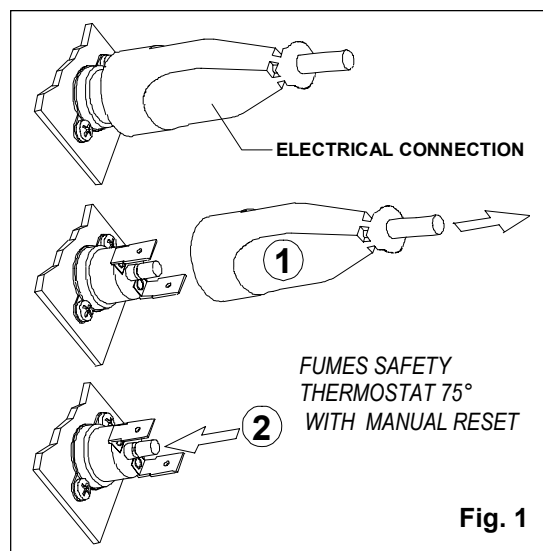
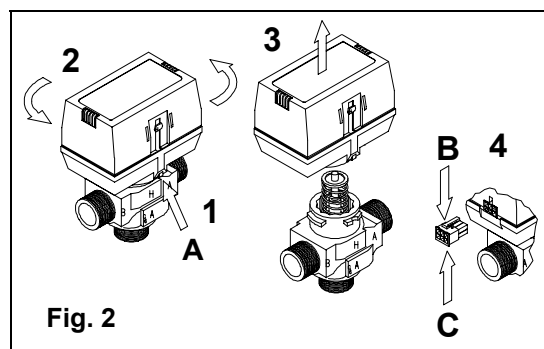

Fig. 1
Fig. 2
Natural draught boilers model Open Combustion hamber Model are equipped with a device (see fig. 1) to control correct exhaust of combustion gases. This device guarantees maximum safety of operation if the flue should become partially or totally blocked, or if its section is not suitable for exhaust of combustion gases.
- turn the summer-winter selector switch to the **OFF** position, detach the electrical connection (1) on the flue safety thermostat (see fig.1), press the button (2) between the two electrical contacts and then attach the electrical connection 1 again.;
To restore the initial position, separate the actuator and the valve body following instructions from no.1 to no.4 (see fig.2).
To separate the motor from the valve body proceed as follows (see fig.2):
The boiler is equipped with a variable flow limiter at the cold water inlet. The flow limiter can be adjusted by turning the screw (see fig.2 pos. **C**) in order to obtain the correct flow rate of domestic hot water for the specific boiler output.
This device gives precedence to domestic hot water and is fitted to boilers which supply instantaneous hot water (see fig.1 – fig. 2 pos. **B**). It allows conversion to hot water even with a minimum hot water demand (min. 2 litres), using an electromagnetic principle with electrical switching by means of a relay. The device is made of non-toxic, corrosion-proof ZYTEL 101 L plastic material which has type approval with non-toxic characteristics and is unaffected by hard water. In addition, a filter is fitted before the flowswitch and at the cold water inlet which eliminates any water impurities. These features guarantee that the flowswitch operation is highly efficient.
To adjust the by-pass proceed as follows (see fig.2 pos. **A**):